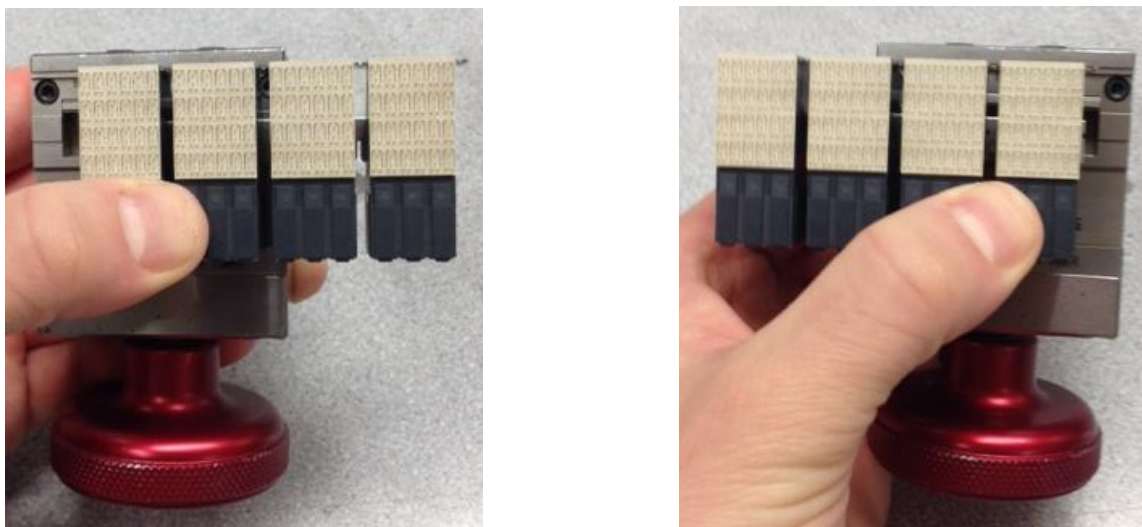

Figure 22. Top stiffener installation on Paladin loose connectors greater than 2" (50.8mm) in overall length
Step 6. Turn the knob in the clockwise direction (if installing the top stiffener) or counterclockwise (if installing the back stiffener) to return the tool to its original "closed" position. Disengage the stiffener removal tool from the stiffener and reengage the tool ~1.0 – 2.0 inches further down the length of the connector (See Figure 22 through Figure 24). Repeat Steps 5 and 6, working back-and-forth across the length of the connector, carefully "walking" the metal stiffener onto the connector stiffener hats.